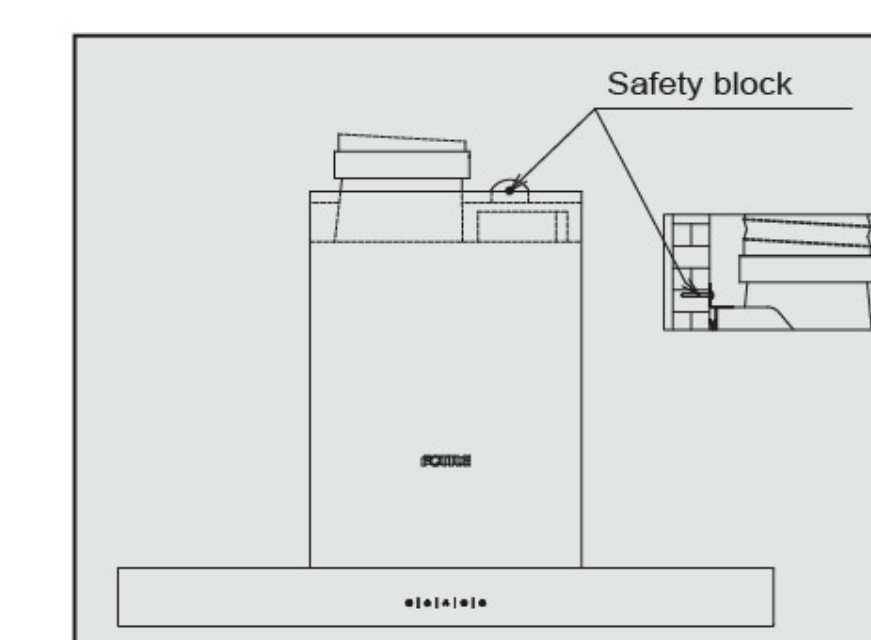
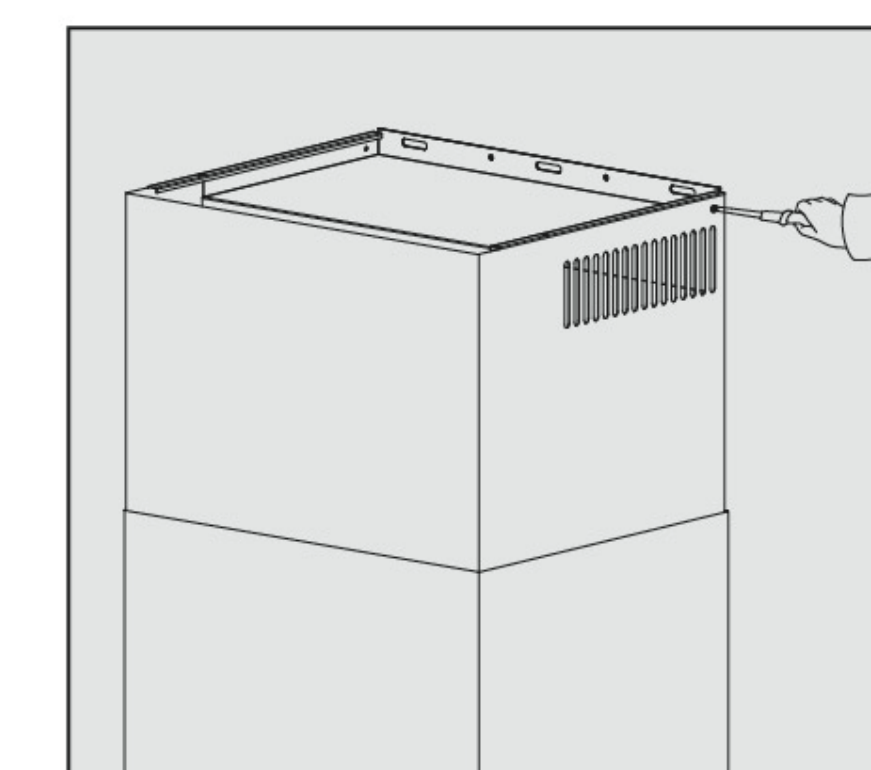

Fig.2
Fig.3
- Refer to Figure 2 to locate the position where drilling shall be carried out via the percussion drill. Embed the expansion pipe in a secure way, fix the safety stops until finally screw them up with wood screws;
- (1) Put the trim cover in the fan shield;
- (2) Take up the fan shield and the trim cover simultaneously. First hang the trim cover on the components of the wind guide box, and then push the trim cover and the fan shield to the bottom along the components of the wind guide box;
- (3) After pushing the trim cover and the fan shield to the bottom, the fan shield will slide down slowly to snap the buckle of the fan shield into the fan frame and then insert the fan shield into the gap between the carrier plate and the fan frame;
- (4) On both sides of the decorative cover use self-tapping screws ST3.9*9.5 to fix the decorative cover on the wind guide box (see Figure 3).